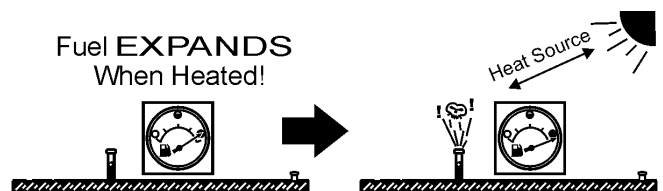

Figure 31. Fuel Expansion
**DO NOT OVERFILL** fuel system. Leave room for fuel expansion. Fuel expands when heated (Figure 31).